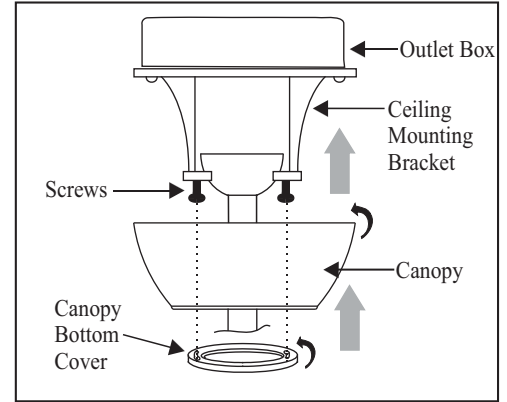

Figure 10
2. Slide the canopy up to ceiling and over the 2 screws on the hanger bracket. Rotate canopy clockwise. Next, while holding the canopy with one hand, slide the canopy cover over the screws and rotate clockwise until tight. Note: adjust the canopy screws as necessary until the canopy and canopy cover are snug. (Fig. 10)